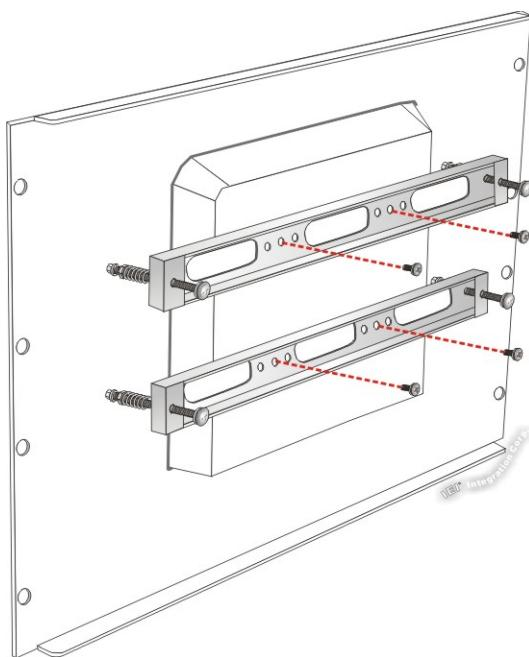

Figure 3-29: Securing Rack Mounting Brackets
Step 5: Secure the two rack mounting brackets to the rear of the panel PC by inserting the four retention screws into the VESA mounting holes and tightening them (Figure 3-29).